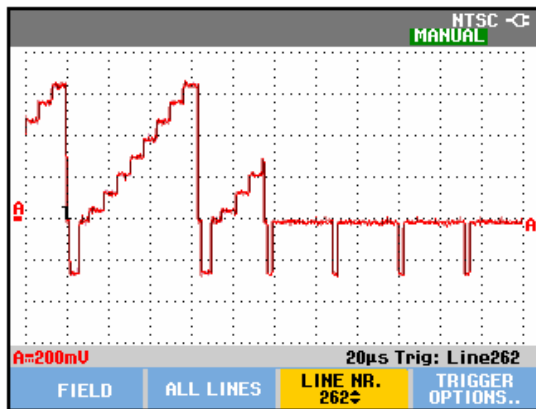

Figure 4-15. Trace for NTSC line 262
- ⇒ line number 262 for NTSC, see Figure 4-15.